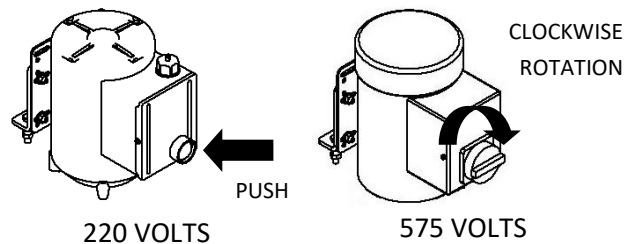

FIGURE 20 : POWER UNIT ACTIVATION
7. ACTIVATE THE HYDRAULIC UNIT TO RAISE THE VEHICLE TIRES ABOUT 1" ABOVE THE GROUND. SEE **FIGURE 20**.